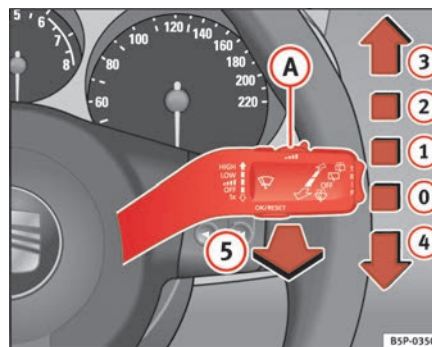

Fig. 82 Windscreen wiper and windscreen wash lever
The windscreen wiper lever ⇒ page 120, fig. 82 has the following positions:
- The next speed down will automatically be selected if wiper speed ② ⇒ page 120, fig. 82 or ③ is selected when the vehicle stops. The set speed will be resumed when the vehicle starts again